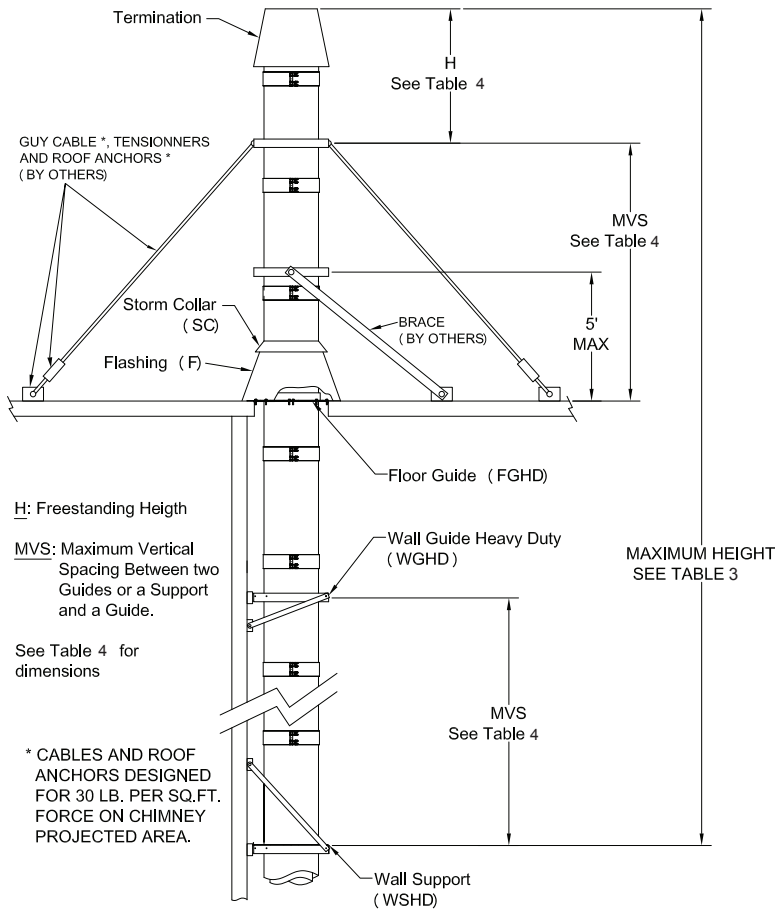

Figure 6 - Height with rigid bracing or guying option for CAX1-(BC)
• If Dimension "H" exceeds the value in the Table 7 & 8, use bracing or cable guying to stabilize chimney section above the roof. See Figure 6